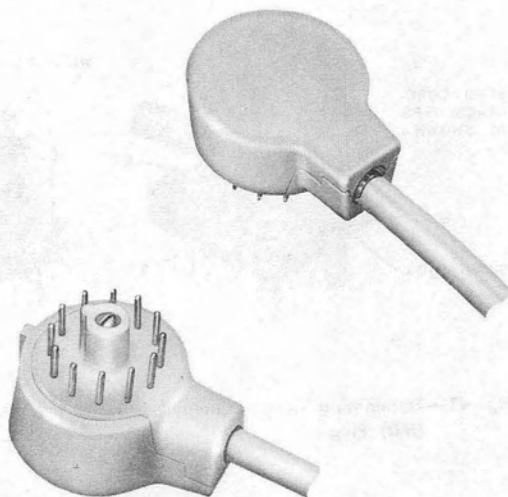
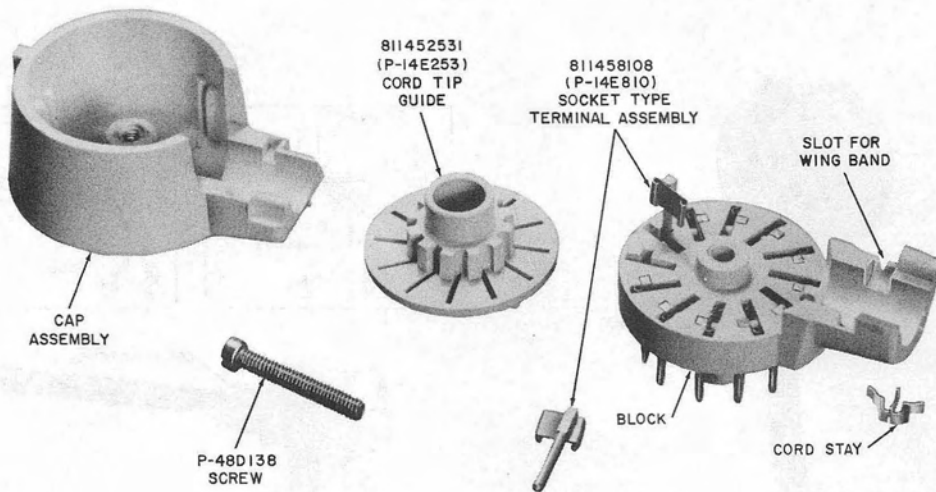

Fig. 46—504A Plug
Fig. 47—504A Plug Disassembled
3.06 The 504A plug (Fig. 46) is a 12-terminal plug consisting of a molded plastic block, cord tip guide, and cap assembly held together by one screw. Each terminal is equipped with a socket-type connector to receive the cord tip. A cord tip guide covers the terminals. The terminals are numbered 1 through 12 and match numbering on the 541A jack. The plug can be inserted into the jack in only one position. It is available in colors shown in Table C. Included with the plug is a metal cord stay designed for use with cords equipped with a wire S hook (Fig. 47). The S hook is removed and discarded. The cord stay, inserted into the vacated band hole, serves as a wing band. Slots are provided on the plug block and shell to hold a wing band or the cord stay. The wing band or cord stay seated in the slot prevents the mounting cord from slipping out of the plug.